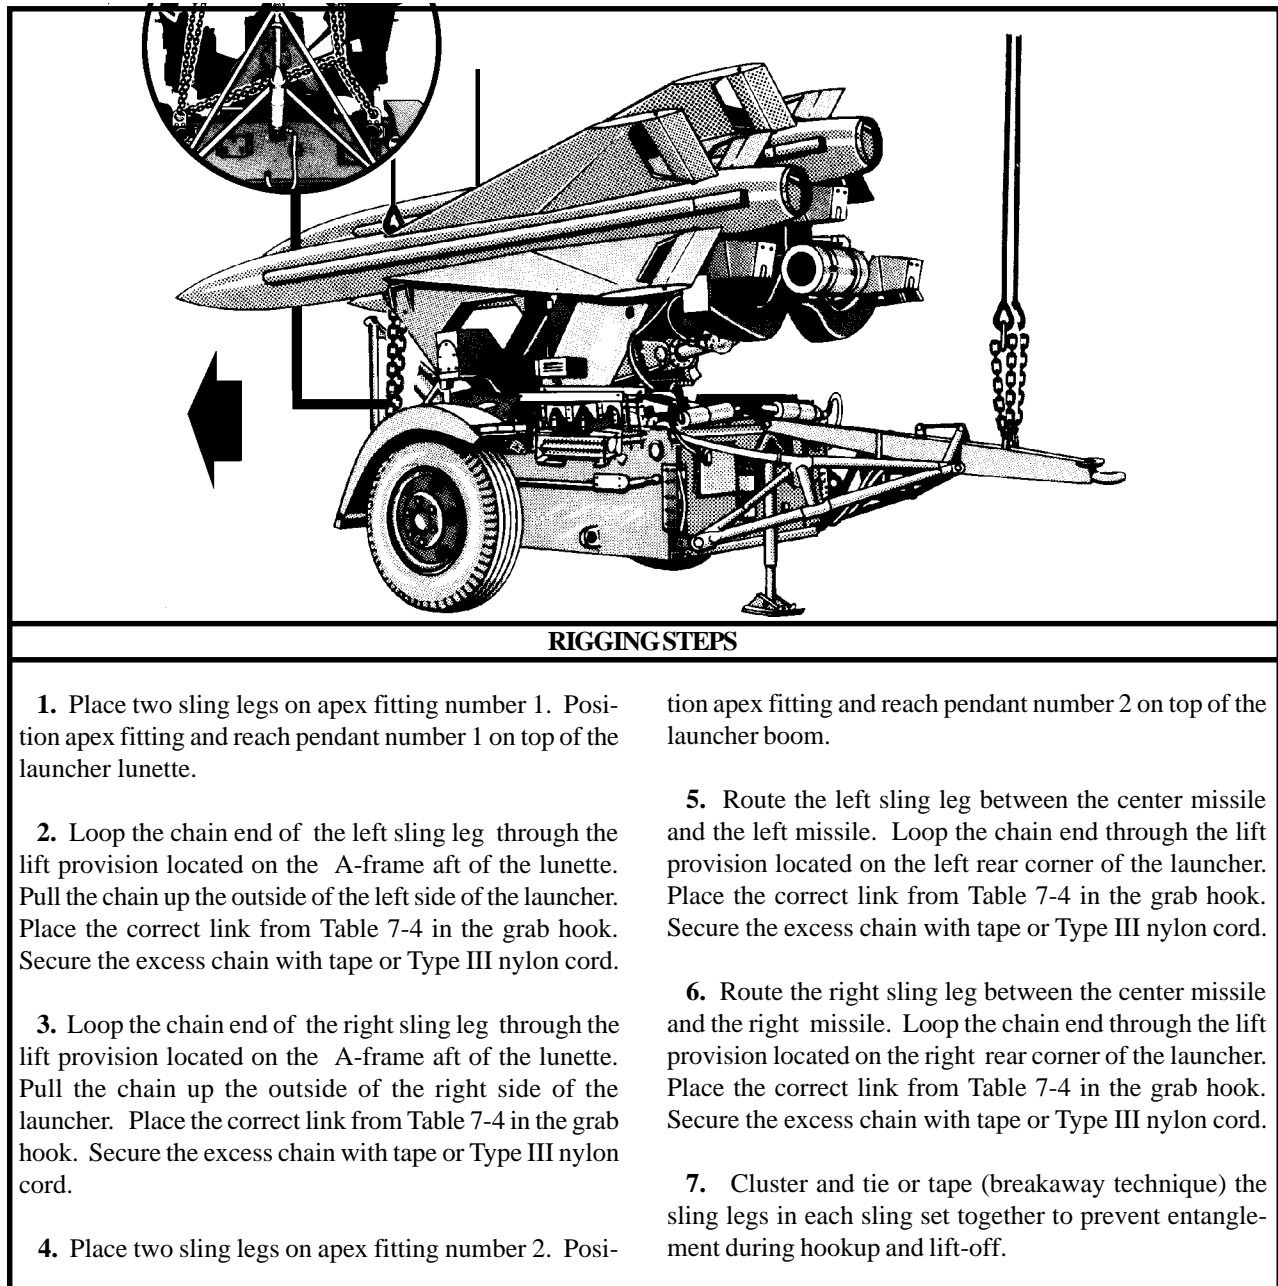

Figure 7-4. HAWK Missile Launcher with or without Missiles
(2) Rigging. Rig the load according to the steps in Figure 7-4.